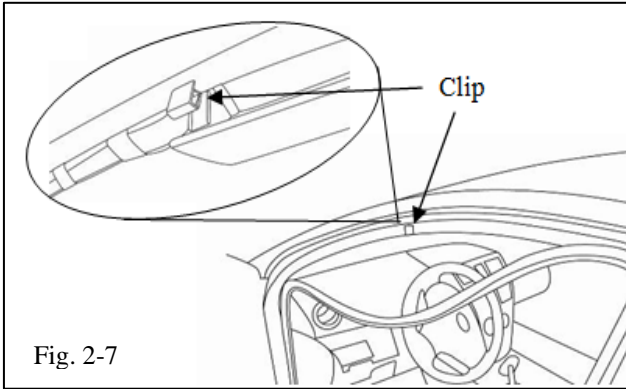

Fig. 2-7
- (1) When pulling down the weather strip, if the metal headliner clip pops off, replace the clip to its original position as shown. (Fig. 2-7)